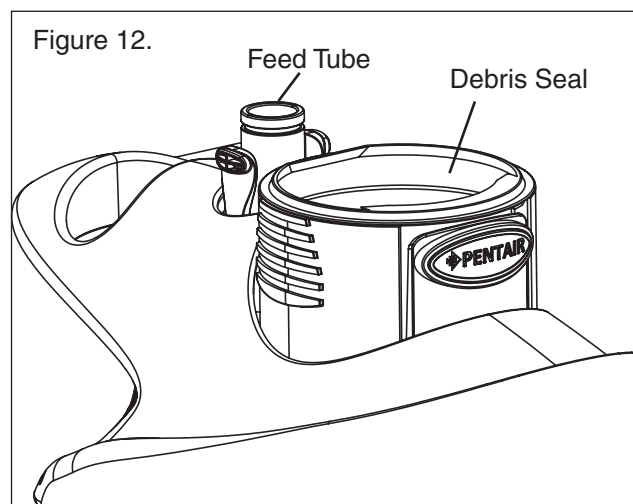

Figure 12.
- Ensure debris seal is attached. **See figure 12.**
5. Be sure debris seal is on the vacuum tube. **See figure 12 on page 6.**